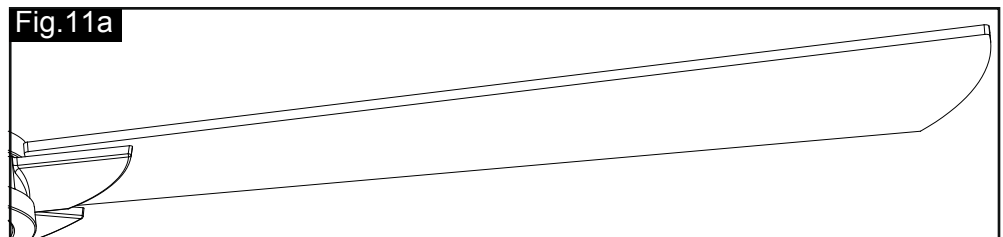

Fig.11a
**Note: The blades shape should be same with the blade holders shape. (Fig.11a)**